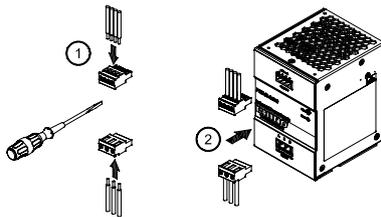

Figure 4
Caution: "Must tighten wire to Terminal Block (Fig.4 (1)) before plugging into the terminal block connection (Fig.4 (2)) In accordance to EN60950 / UL60950 and EN62368 / UL62368, flexible cables require ferrules.